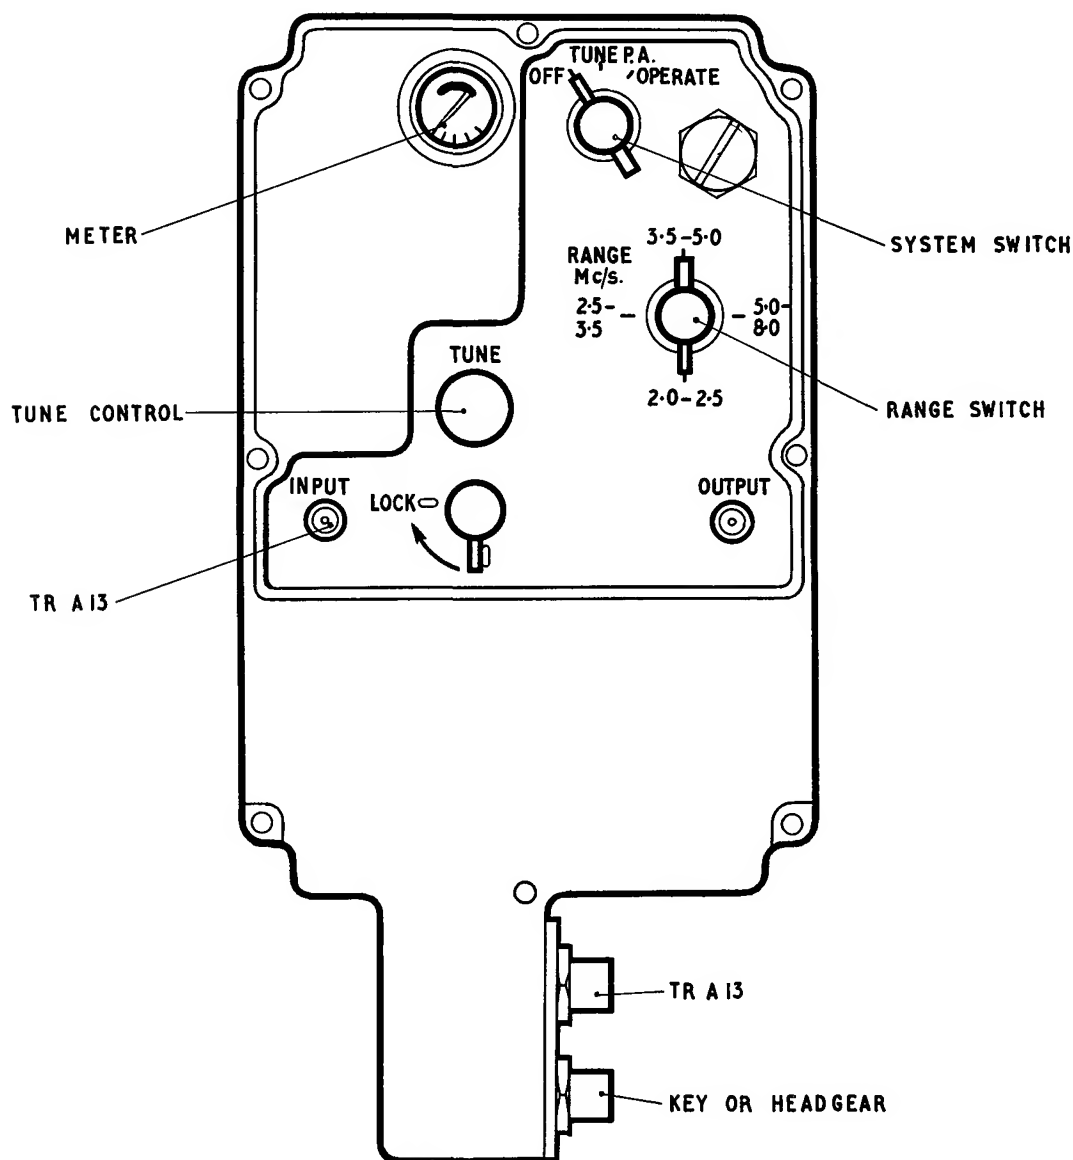

FIG. 18 Mk1 AMPLIFIER CONTROLS
- (2) Check that the system switch on the RF amplifier is turned to the OFF position. See fig. 18.
- (3) Carry out the tuning instructions for the LP station as instructed on pages 29 to 33.
- (4) Turn the RANGE switch on the Mk. 1 RF amplifier to select the frequency range required.